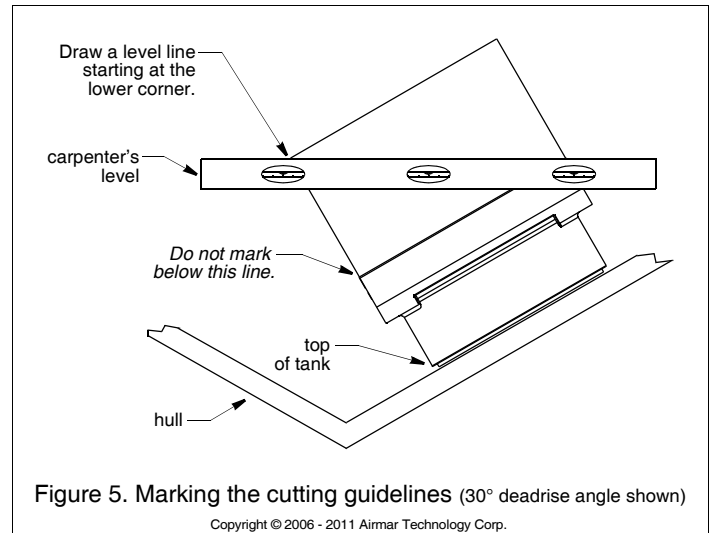

Figure 5. Marking the cutting guidelines (30° deadrise angle shown)
2. When you are satisfied that the selected mounting location is optimal, place the tank *up-side-down* on the hull (see Figure 5).